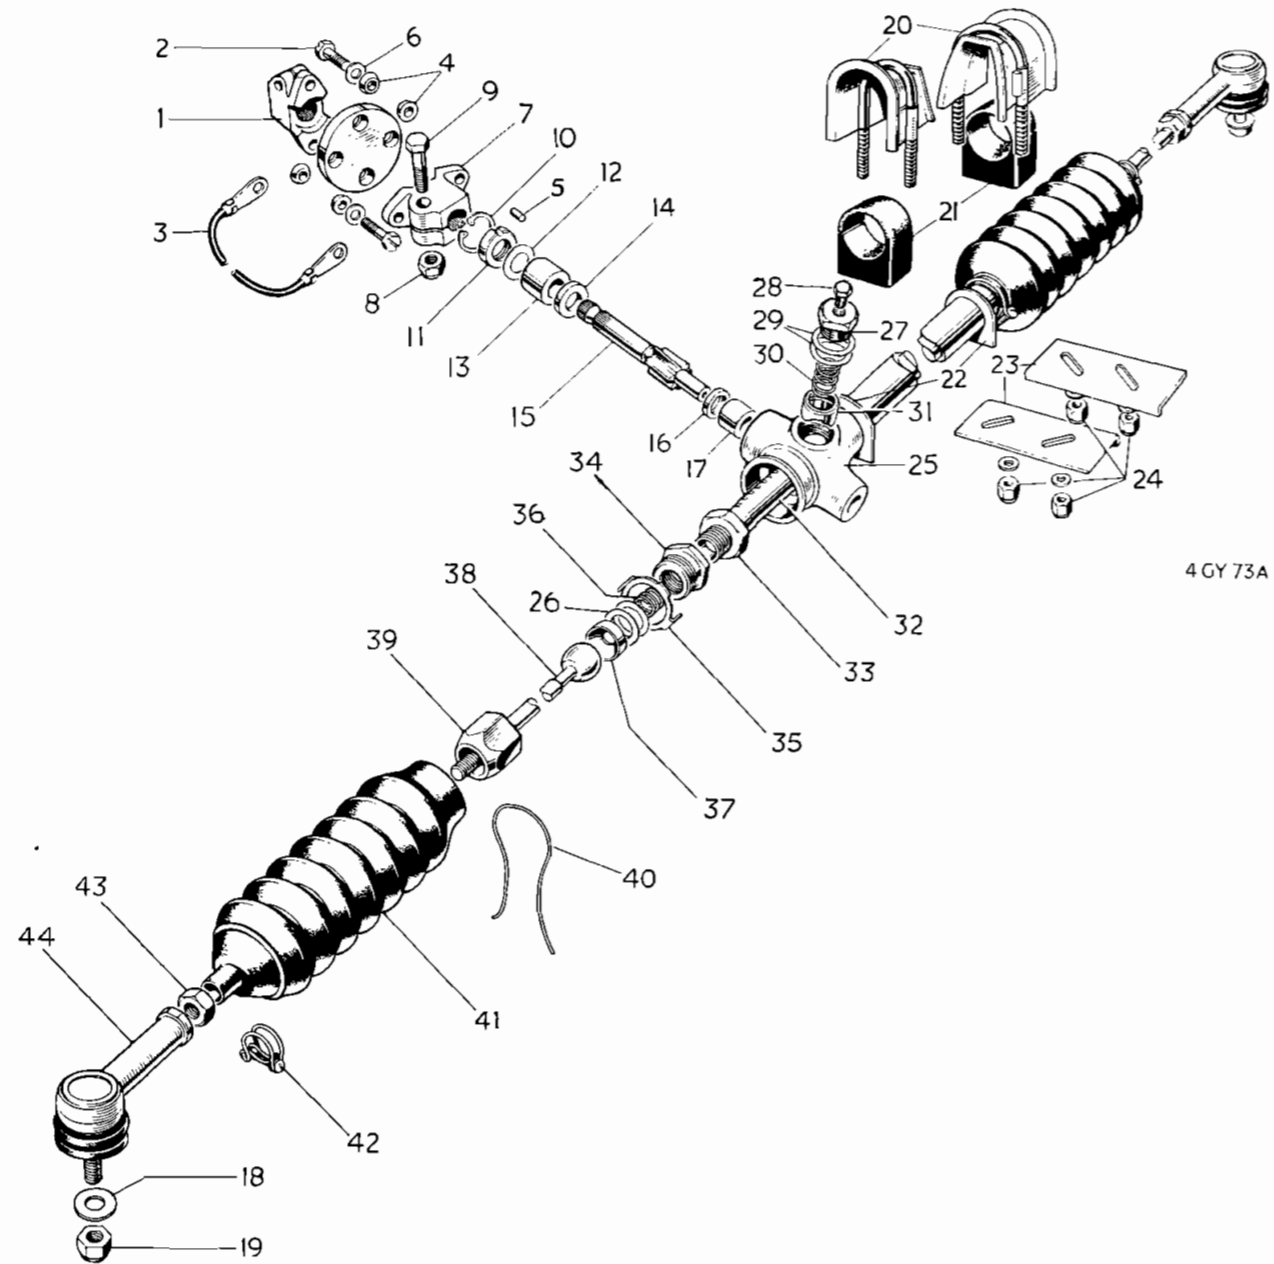

Fig. 4. Exploded steering unit
Limitation of the steering lock is controlled by the locknut (33) Fig. 4, contacting the rack tube. Thus dimension (3) Fig. 1 is particularly important. Providing that this dimension is accurate and the steering unit is centrally mounted on the chassis, correct steering locks should result.
Centralize the steering unit and measure the front wheel alignment, using Dunlop or similar wheel alignment equipment. If adjustment is required, slacken the locknuts (43) Fig. 4, the clips (42) and rotate the tie-rods (38) until alignment is correct. Note the reading. Roll the vehicle forward to rotate the wheels 180°, and take a second reading. Adjust the tie-rods to a mean of the two readings thus allowing for wheel rim run-out.
## Key to Fig. 4
3. Referring to Fig. 4, remove in the following order, items (24), (23), (20) and (21).